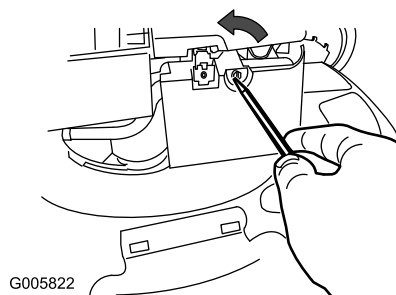

Figure 16
1. Use a screw driver to open the air filter cover (Figure 16).